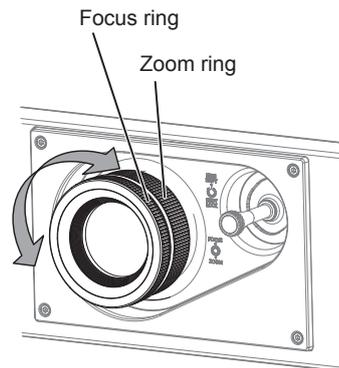

Fig. 2
5) **Adjust the zoom and the focus. (Fig. 2)**